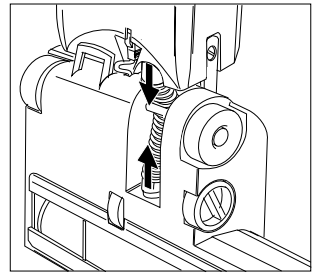

Figure 12
- The connecting hose can be removed by pulling out both ends. Remove the blockage. <Figure 12>